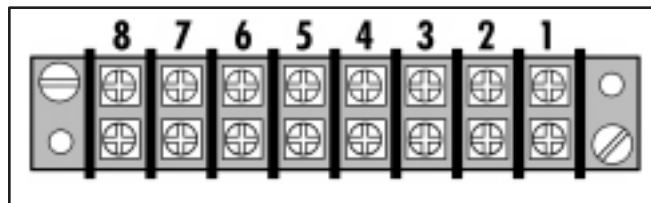

Figure 85
6. Disconnect the old coil cord wire connectors from the terminal strip – terminals #1 & #2 (Figure 85).
10. Connect the coil cord wire connectors to the terminal strip. The black wire connects to terminal #1. Connect the white wire to terminal #2 (Fig. 85).